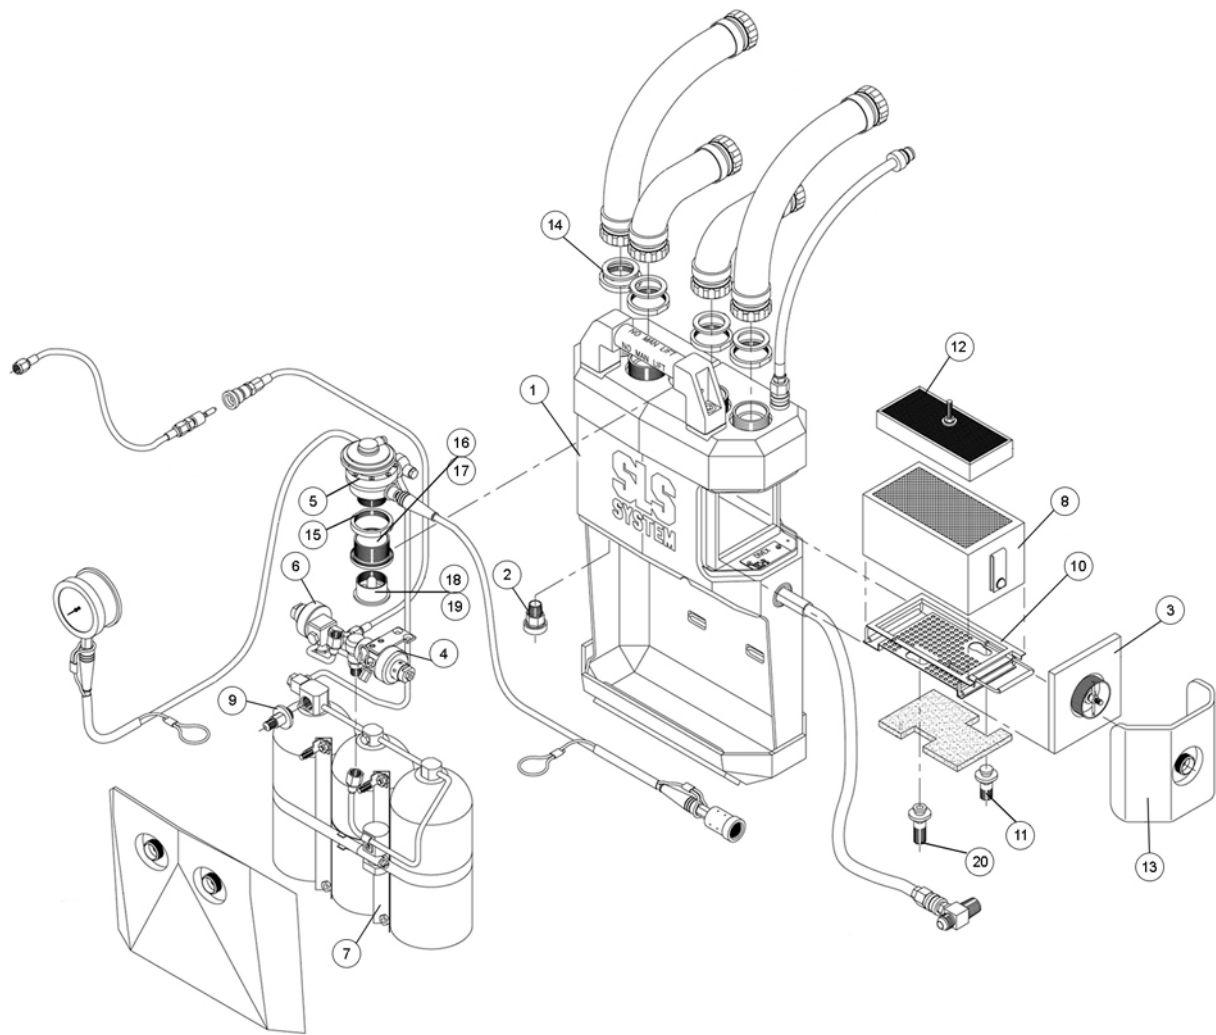

Fig 4.1 Weekly Maintenance - Main Housing
1. Inspect the main housing, which is shown in Fig 4.1, for damage or wear. Replace any damaged or worn components as necessary.